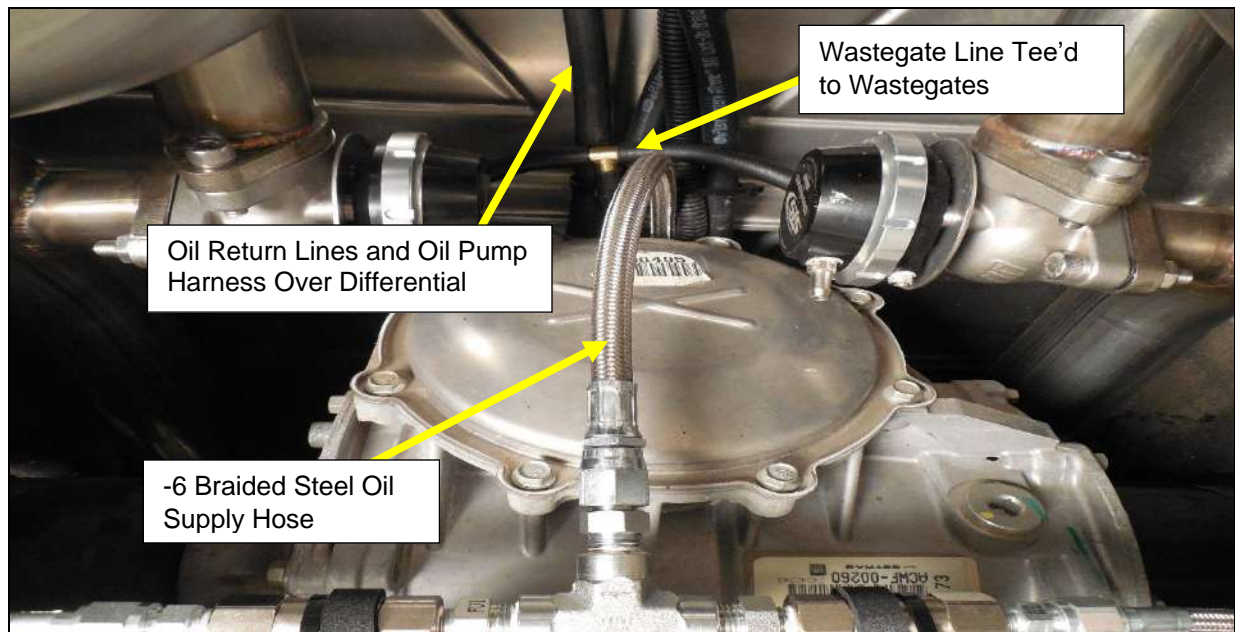

Figure 37
3. Terminate all the lines and oil pump harness to the center of the muffler box directly over the differential (Figure 37).